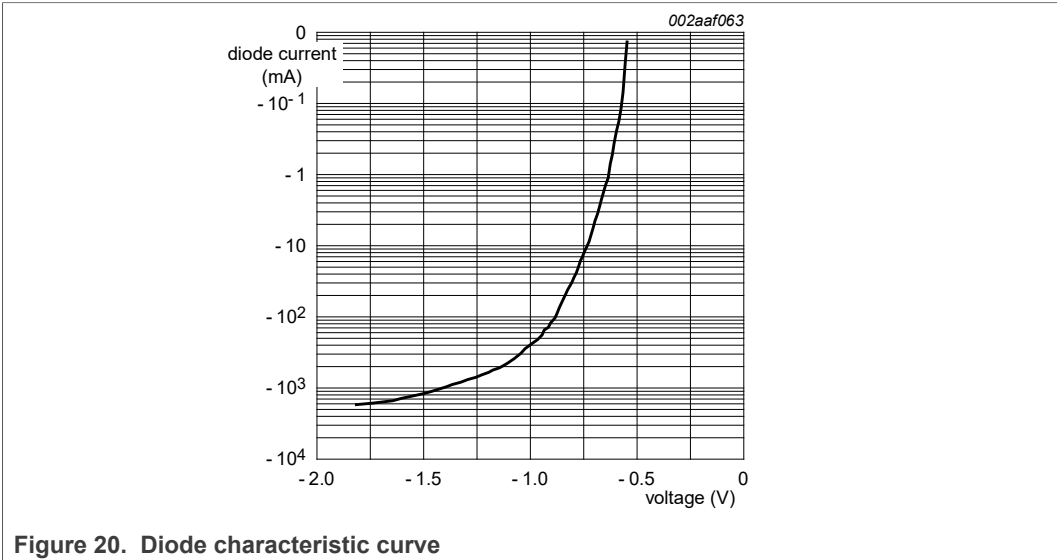

Figure 20. Diode characteristic curve
Figure 20 shows the measured characteristic for one of those diodes inside P82B96. The plot was made using a curve tracer that applies 50 Hz mains voltage via a series resistor, so the pulse durations are long duration (several milliseconds) and are reaching peaks of over 2 A when more than -1.5 V is applied. The IC becomes very hot during this testing but it was not damaged. Whenever there is current flowing in any of these diodes it is possible that there can be faulty operation of any IC. For that reason we put a specification on the negative voltage that is allowed to be applied. It is selected so that, at the highest allowed junction temperature, there will be a big safety factor that guarantees the diode will not conduct and then we do not need to make any 100 % production tests to guarantee the published specification.
For the P82B96, in specific applications, there will always be transient overshoot and ringing on the wiring that can cause these diodes to conduct. Therefore we designed the IC to withstand those transients and as a part of the qualification procedure we made tests, using DC currents to more than twice the normal bus sink currents, to be sure that the IC was not affected by those currents. For example, the Tx/Ty and Rx/Ry pins were tested to at least -80 mA which, from Figure 20, would be more than -0.8 V. The correct functioning of the P82B96 is not affected even by those large currents. The Absolute Maximum (DC) ratings are not intended to apply to transients but to steady state conditions. This explains why you will never see any problems in practice even if, during transients, more than -0.3 V is applied to the bus interface pins of P82B96.
Figure 20 also explains how the general Absolute Maximum DC specification was selected. The current at 25 °C is near zero at -0.55 V. The P82B96 is allowed to operate with +125 °C junction and that would cause this diode voltage to decrease by  $100 \times 2 \text{ mV} = 200 \text{ mV}$ . So for zero current we need to specify -0.35 V and we publish -0.3 V just to have some extra margin.